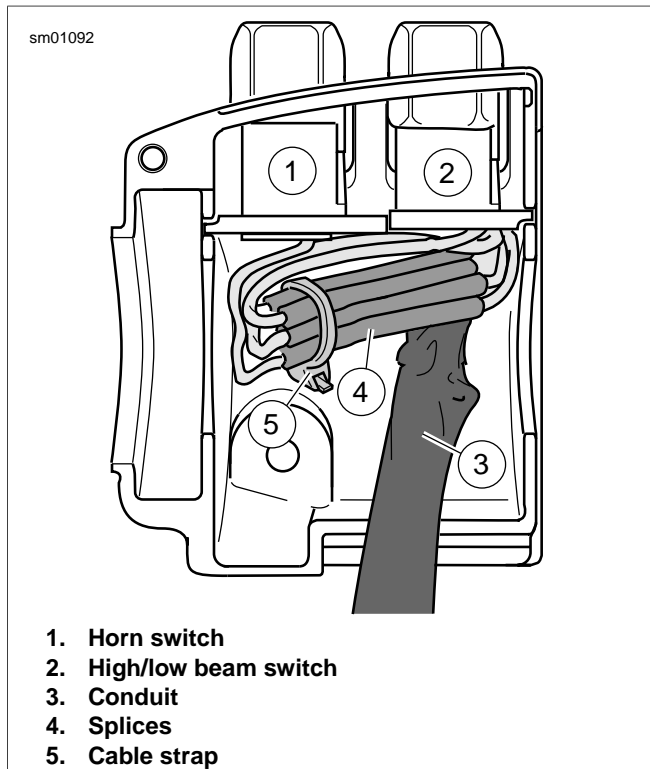

Figure 7-98. Upper Housing With Splices
- Loop switch wires so that spliced lengths are positioned as shown in Figure 7-98. Route wires downstream of
- See Figure 7-98. Install a **new** 7.0 in. (177.8 mm) cable strap (5) beneath wing on horn switch side (1) of bracket and capture wire splices (4).